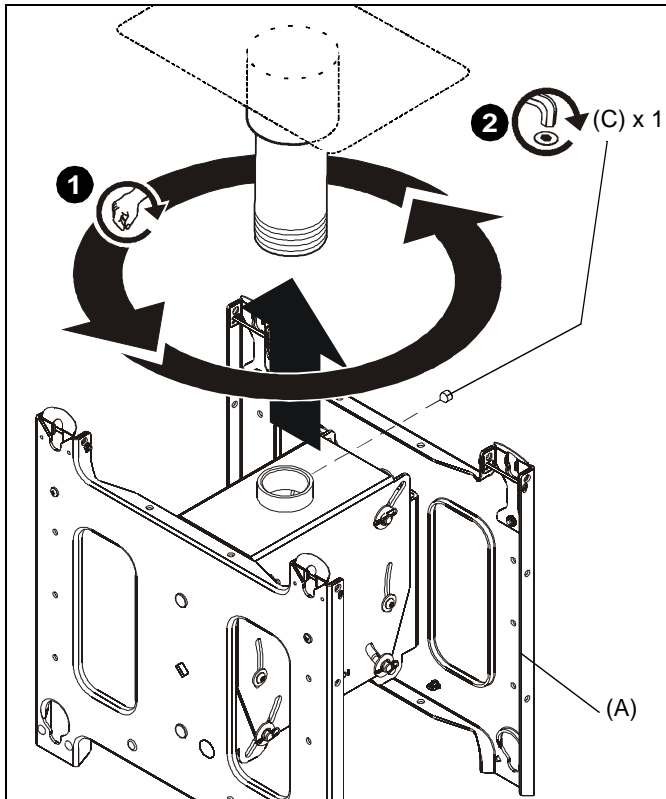

Figure 1
1. Thread the PCD mount (A) onto the existing 1-1/2" NPT or NPSM extension column (not included) until tight, with a minimum of four threads engaged. (See Figure 1)